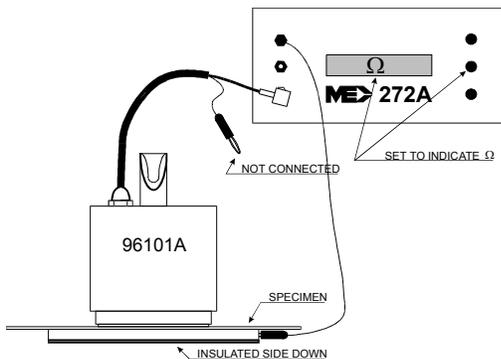

Figure 5
The Connections for unguarded measurements are given in Figure 5. Factors for converting meter readings (in Ω) directly to volume resistivity (unit $\Omega\text{V}/\text{cm}$) are presented in Table 1. Above information is presented as an overview of some of the complications involved in the use of the concentric or guarded ring type electrode. Either of the standards should be consulted for further details.
- 1) Arrange test setup as in Figure 5.